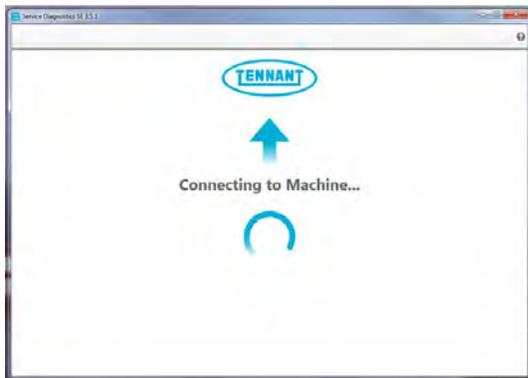

FIG. 22
9. Allow Service Diagnostics tool to connect to the lithium battery network. (Fig. 22)